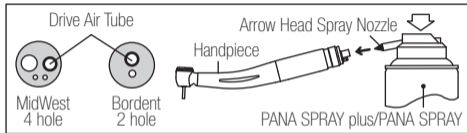

Fig. 7
- 1) Mount the Arrow Head Spray Nozzle into the Spray Port.(Fig.7)